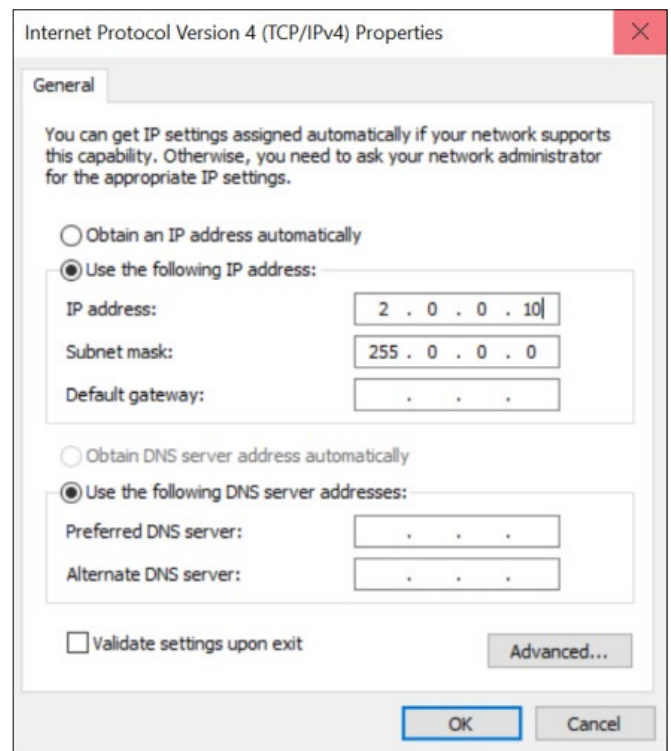

Figure 1: Configuration menu for IP address and Subnet mask
In order to keep VP networks separated from other network traffic, the VP fixtures use IP addresses in the 2.x.x.x range, and Subnet mask 255.0.0.0 by default. (See figure 1).
9. Then set "Use the following IP address" (see figure 1).